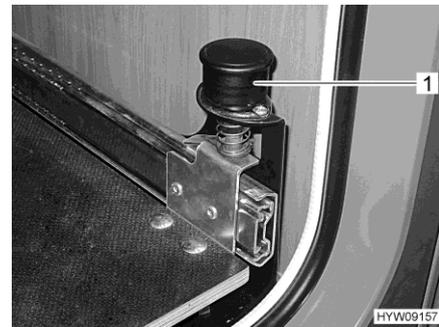

Fig. 81 Knob with locking device
- Pull the knob (Fig. 81,1) upwards. The gas bottle compartment pull-out is unlocked.